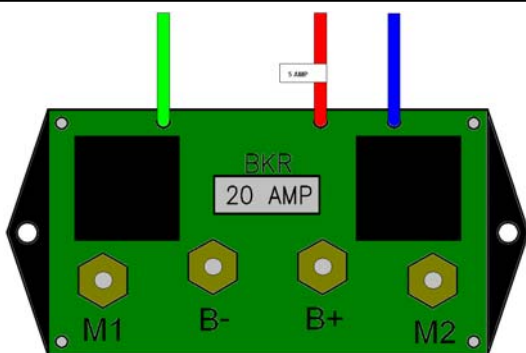
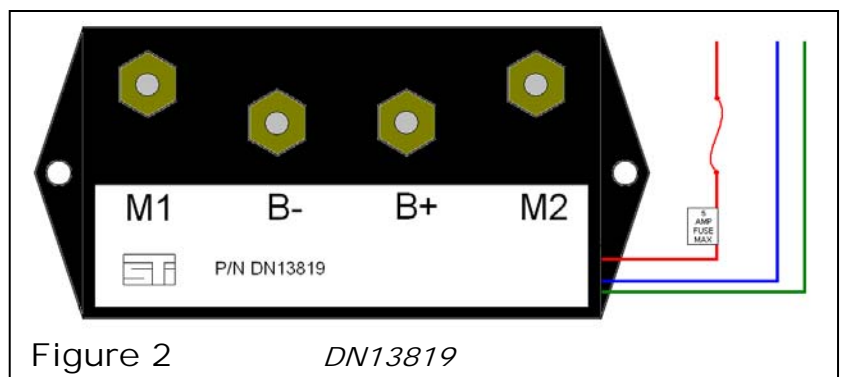

Figure 1 DN13003
Figure 2 DN13819
- Waterproof relay pack # DN13003 (**FIGURE 1**) is no longer available. It is currently being replaced with **NON-WATERPROOF** relay pack # DN13819 (**FIGURE 2**).